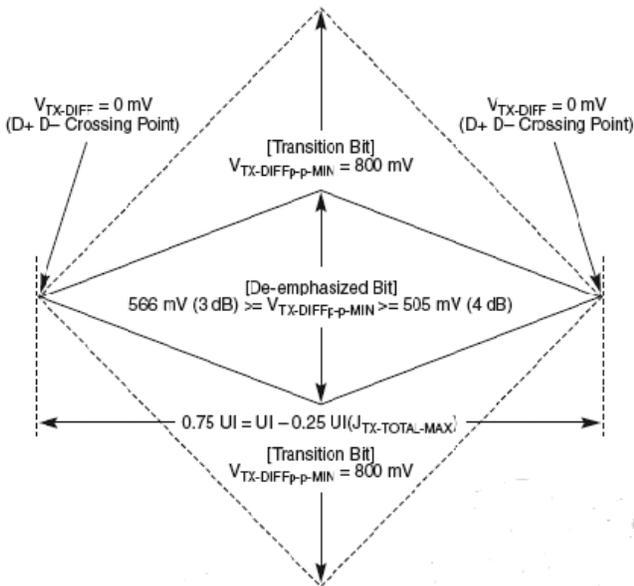

Figure 1: PCI Express Eye Specification @ BER 10^{-12}
The eye-opening, or phase margin, for a given bit error ratio (BER) defines how much of the bit period (T_B) or unit interval (UI) has a BER less than or equal to the BER threshold. The total jitter (TJ) is what remains, and is defined as the amount of T_B or UI greater than the given threshold. That is, the sum of eye-opening and TJ equals T_B , or (normalized) 1 UI. The relationship between the size of the eye-opening and the TJ depends on the BER threshold. Many standards define the eye-opening numerically or by Eye Timing and Voltage specifications. Figure 1 shows such a specification for PCI Express. In this case an eye-opening of 0.75 UI (75% of the UI) is required. The maximum TJ is therefore 0.25 UI (25% of the UI). The PCI Express standard, like many standards, defines such eye specifications for a BER threshold of 10^{-12} .